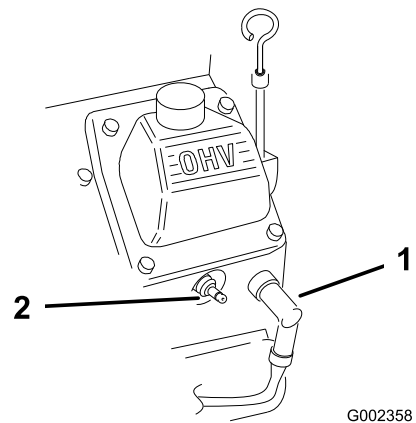

Figure 29
2. Disconnect the wires from the spark plugs (Figure 29).